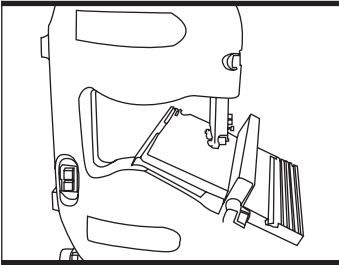

Fig 20
3. Angle cuts and double mitre cuts (See Fig 20 & 21)